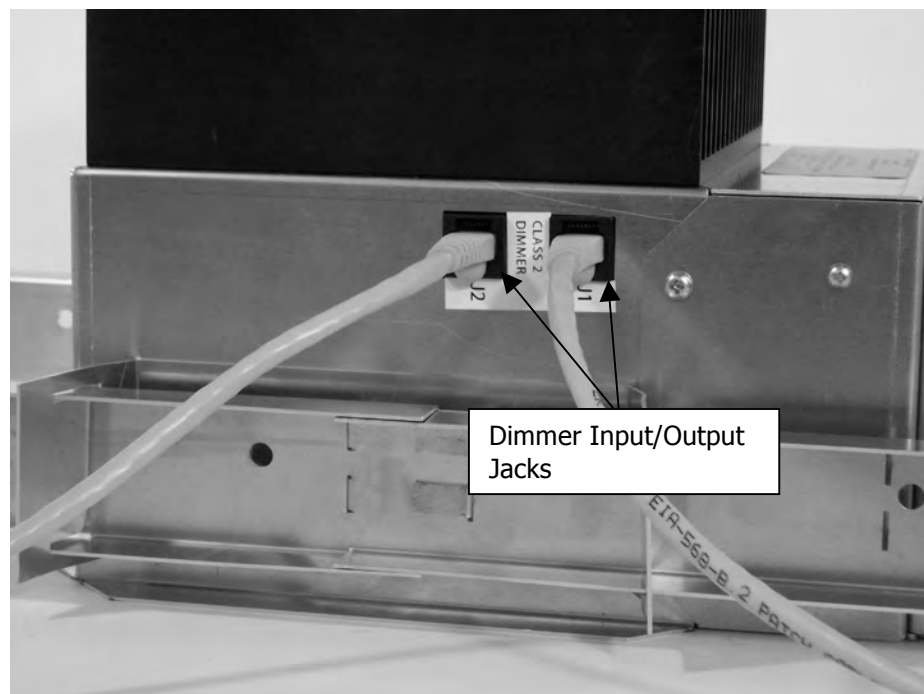
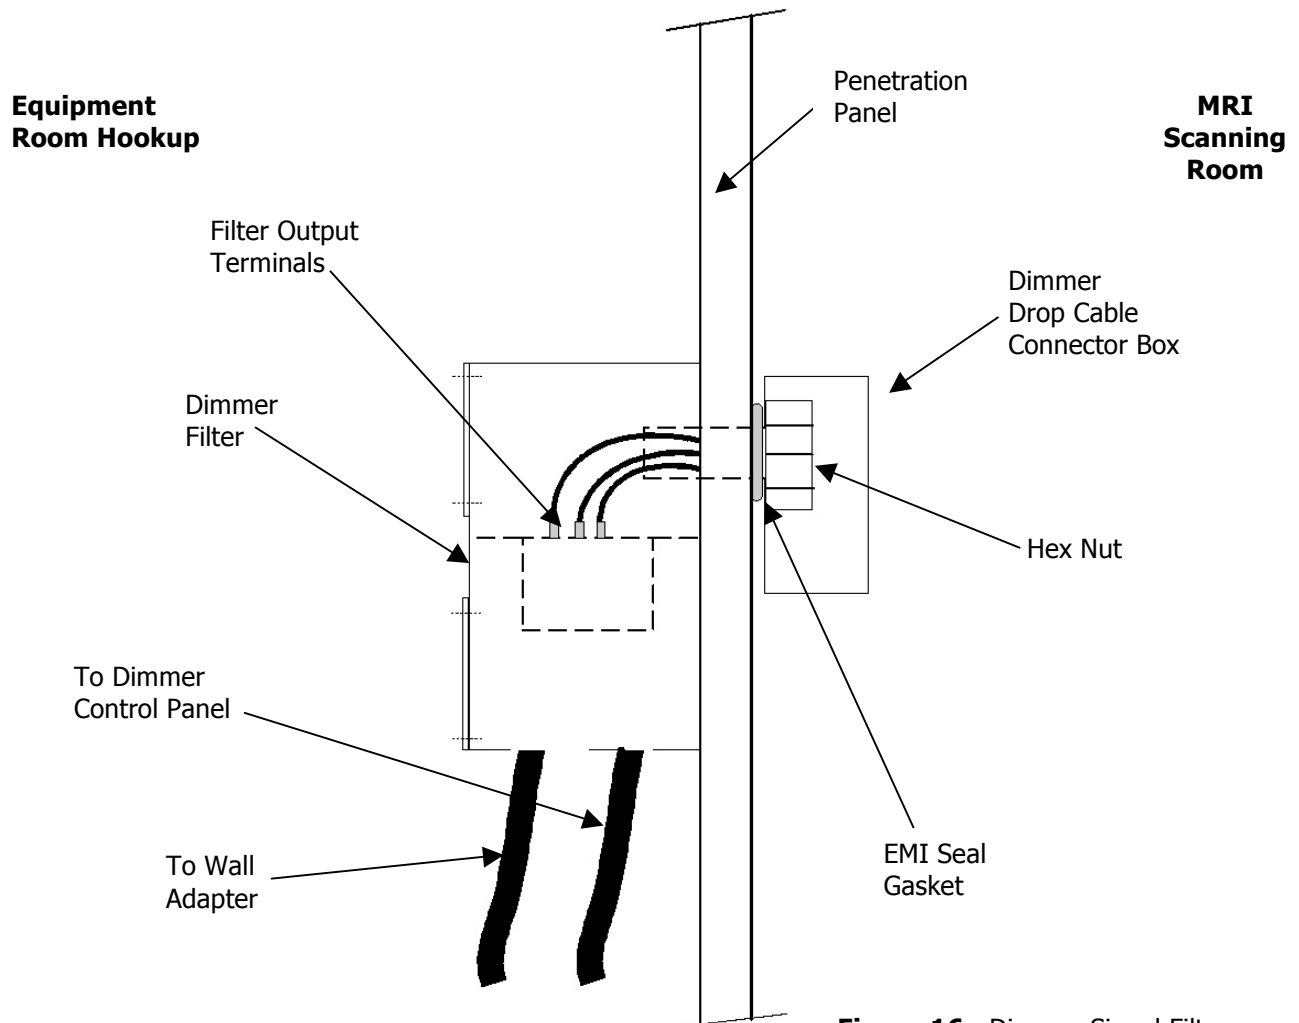

Figure 11: Dimmer Input/Output Connections
Figure 16: Dimmer Signal Filter
16. Connect the Dimmer Input/Output cables to the Light Fixture Assembly. Repeat this process until all Dimmer Jacks/cables are connected. See Figure 11. If lighting zones are required, do not connect a cable between fixture in different zones.
10. Run the 25' dimmer drop cable from the Dimmer Drop Cable Connector box directly into the Dimmer Input/Output Jack located next to the Junction Box on the nearest XLS-2® Fixture. See Figure 11 on page 12. Connect all remaining lamps in daisy chain fashion using the Dimmer Input/Output Jacks.
5. Route the Dimmer Drop Cable from the nearest XLS lamp, through the wall, and into the dimmer control box (See Figure 16). Plug it into the RJ-45 connector, J2, on back of the dimmer control panel. Connect all remaining lamps in daisy chain fashion using the Dimmer Input/Output Jacks shown in Figure 11.